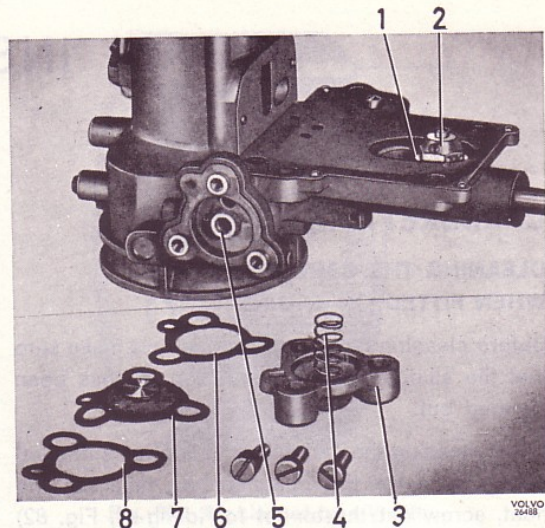

Fig. 84. Economizer valve
6. Remove the float valve and the economizer valve, Fig. 84. Screw out the idle fuel jet.
2. Check that the economizer valve disc (7, Fig. 84) is in good contact with its seat (5). The disc can be lapped in against the seat with fine grinding compound if necessary.